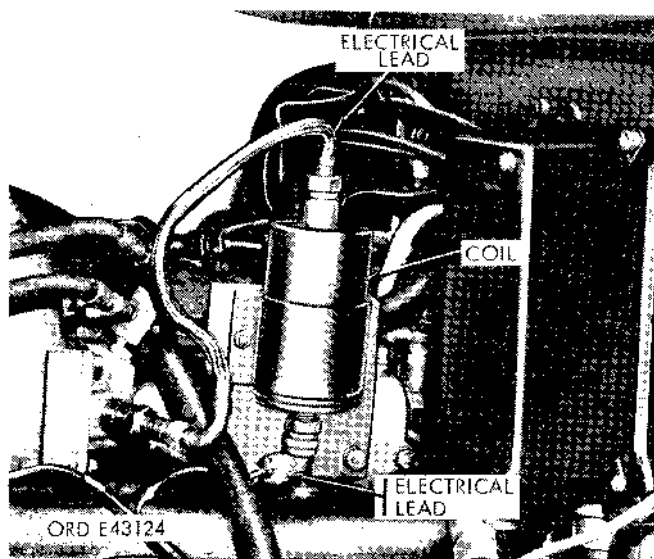

Figure 2-108. Disconnecting electrical leads from coil.
(1) Disconnect the electrical leads from the top and bottom of the coil unit (fig. 2-108).
(2) Connect the electrical leads at the top and bottom of the coil unit (fig. 2-108).